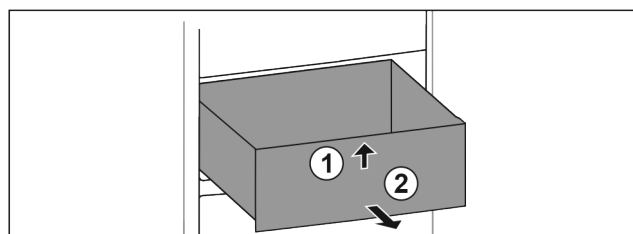

Fig. 59
- ▶ Lift up drawer at the front. Fig. 59 (1)
- ▶ Remove drawer to the front. Fig. 59 (2)